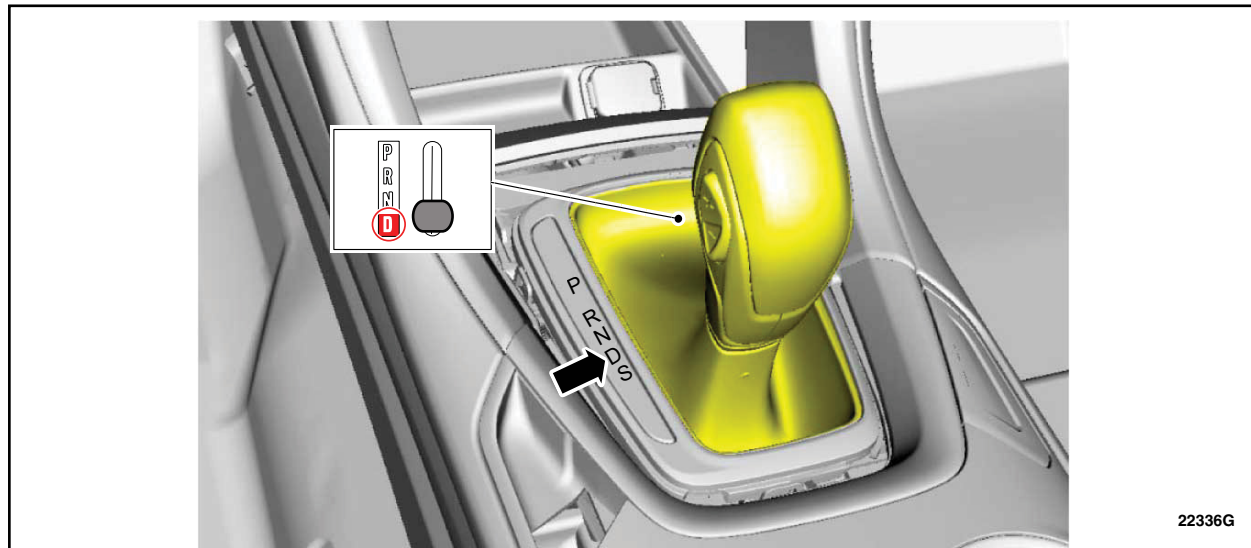

FIGURE 7
8. The vehicle's transmission gear selector lever should be in the Drive position from Step 2, if not, position the selector lever to Drive (D). See Figure 7.